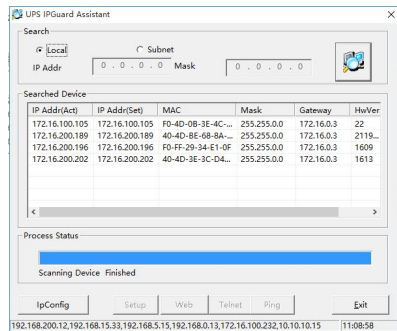

Figure 1
configassist in the supporting CD Exe (included in the windows folder of the CD, or double-click to open the CD to select the installation configuration tool).The operation interface is shown in Figure 1:
② Click the search button  to search the currently connected device. (search automatically after software startup) the IP address, physical address, subnet mask, gateway, hardware version, firmware version and other information of the currently searched device will be displayed in the "found device" column, as shown in Figure 1: